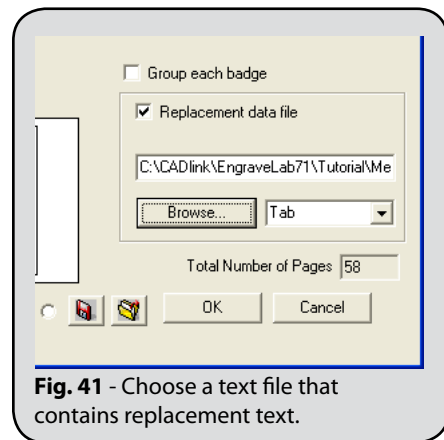

Fig. 41 - Choose a text file that contains replacement text.
4. This example uses the “MemberStates.txt” file that is in the EngraveLab Tutorial directory (Fig. 41).